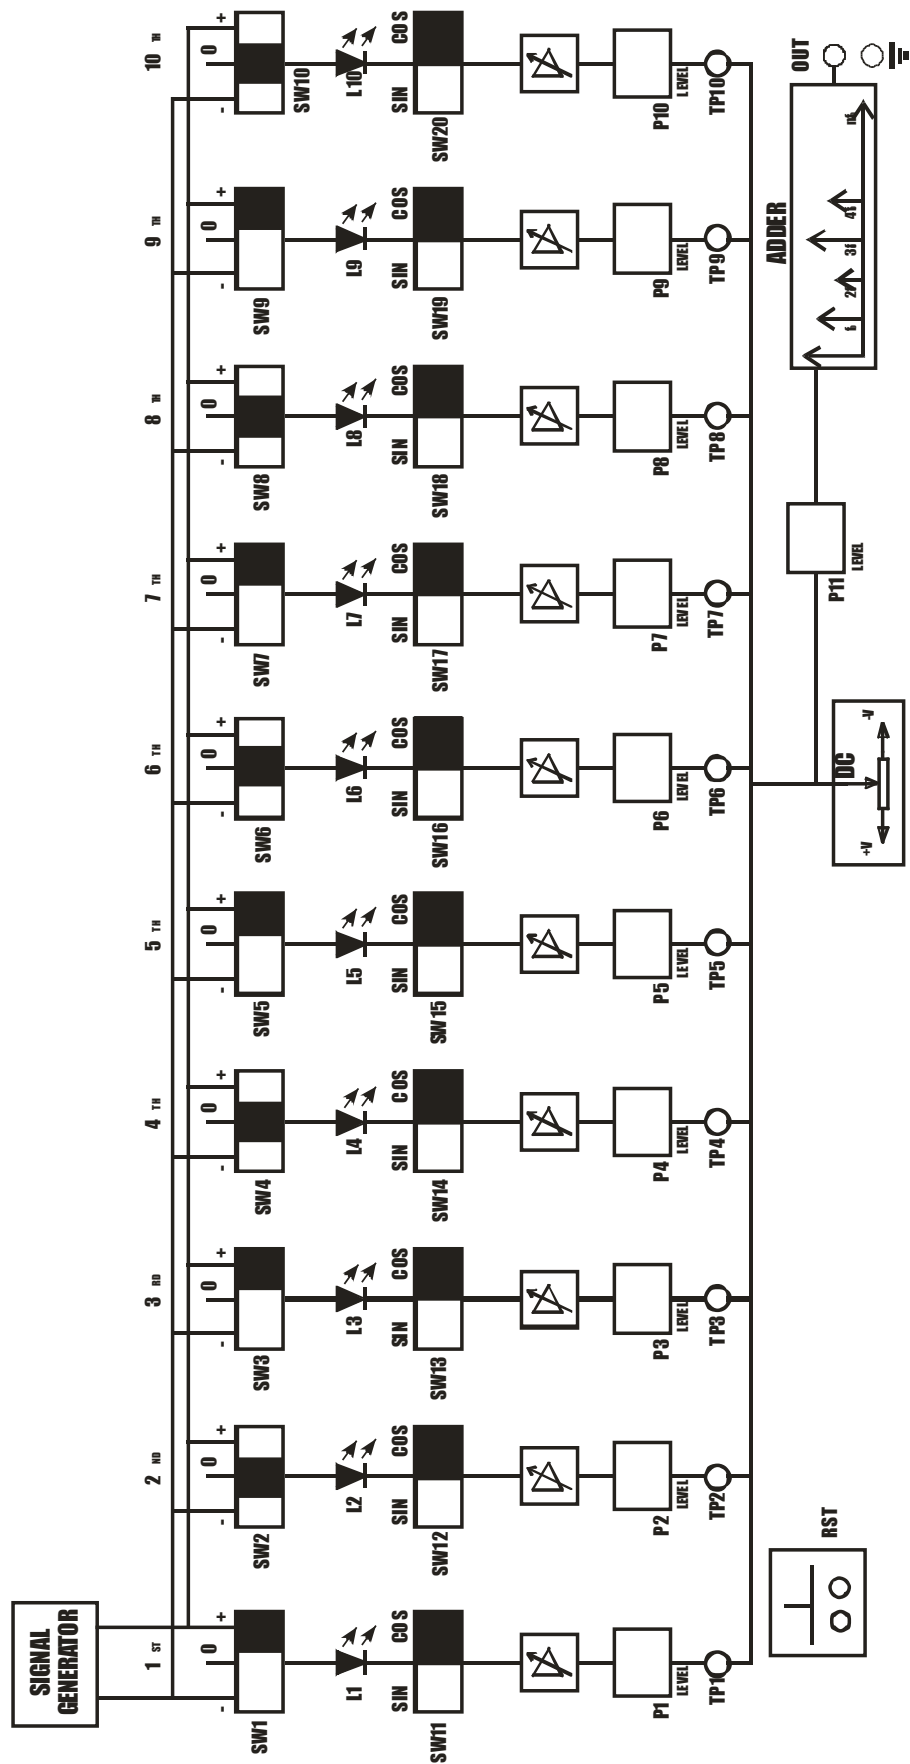

FIG. 2.1
- by referring fig 2.1, set Odd harmonics (1/3/5/7/9) : three-way switches “-/0/+” on “+” and two-way switches “sin/cos” on “cos”